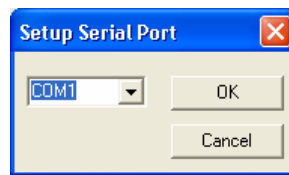

Figure 39 - Setup Serial Port Dialog
1. Choose **Setup** ➔ **Serial Port** from the main menu. The Setup Serial Port Dialog (Figure 39) appears.